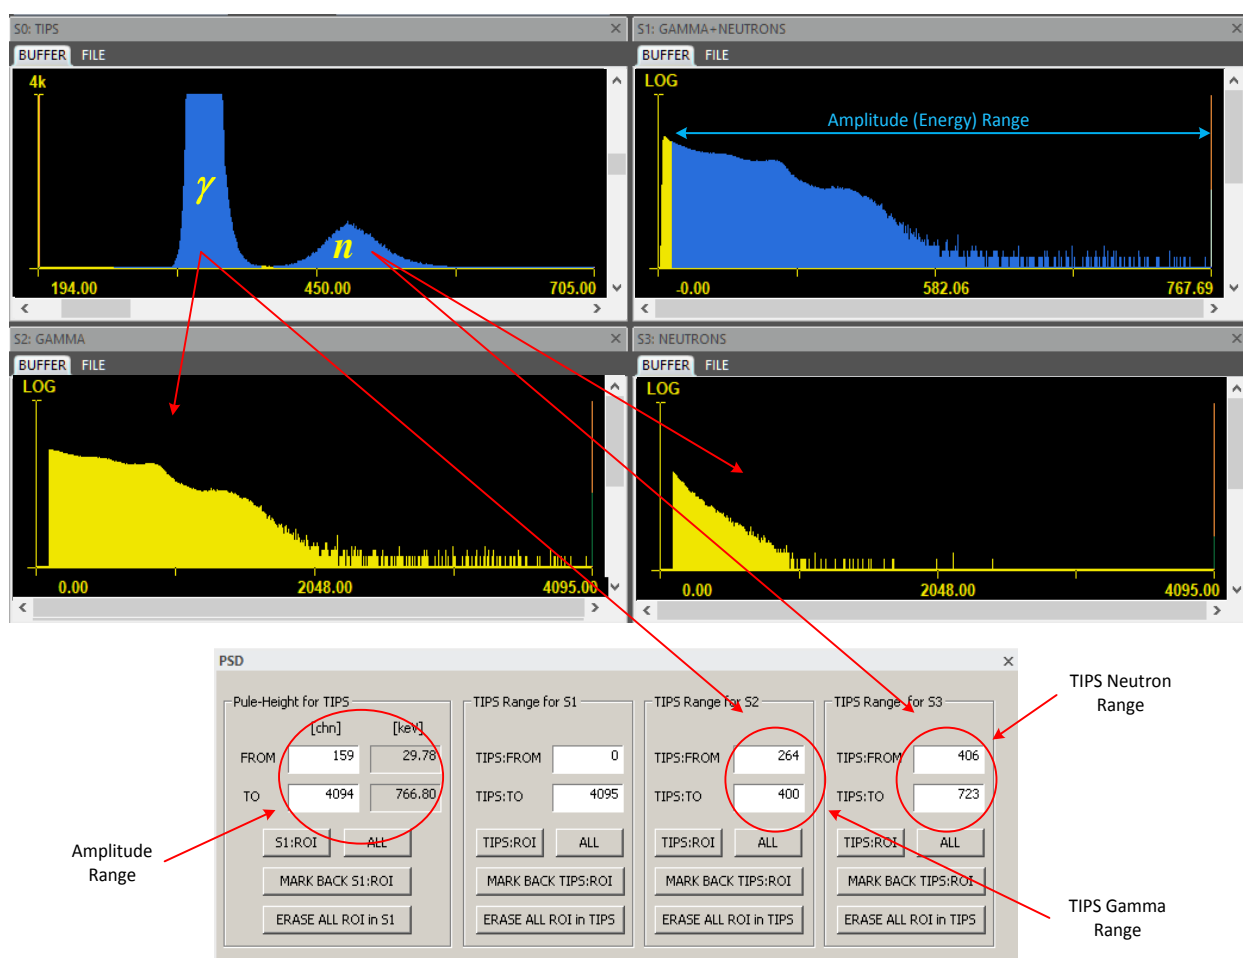
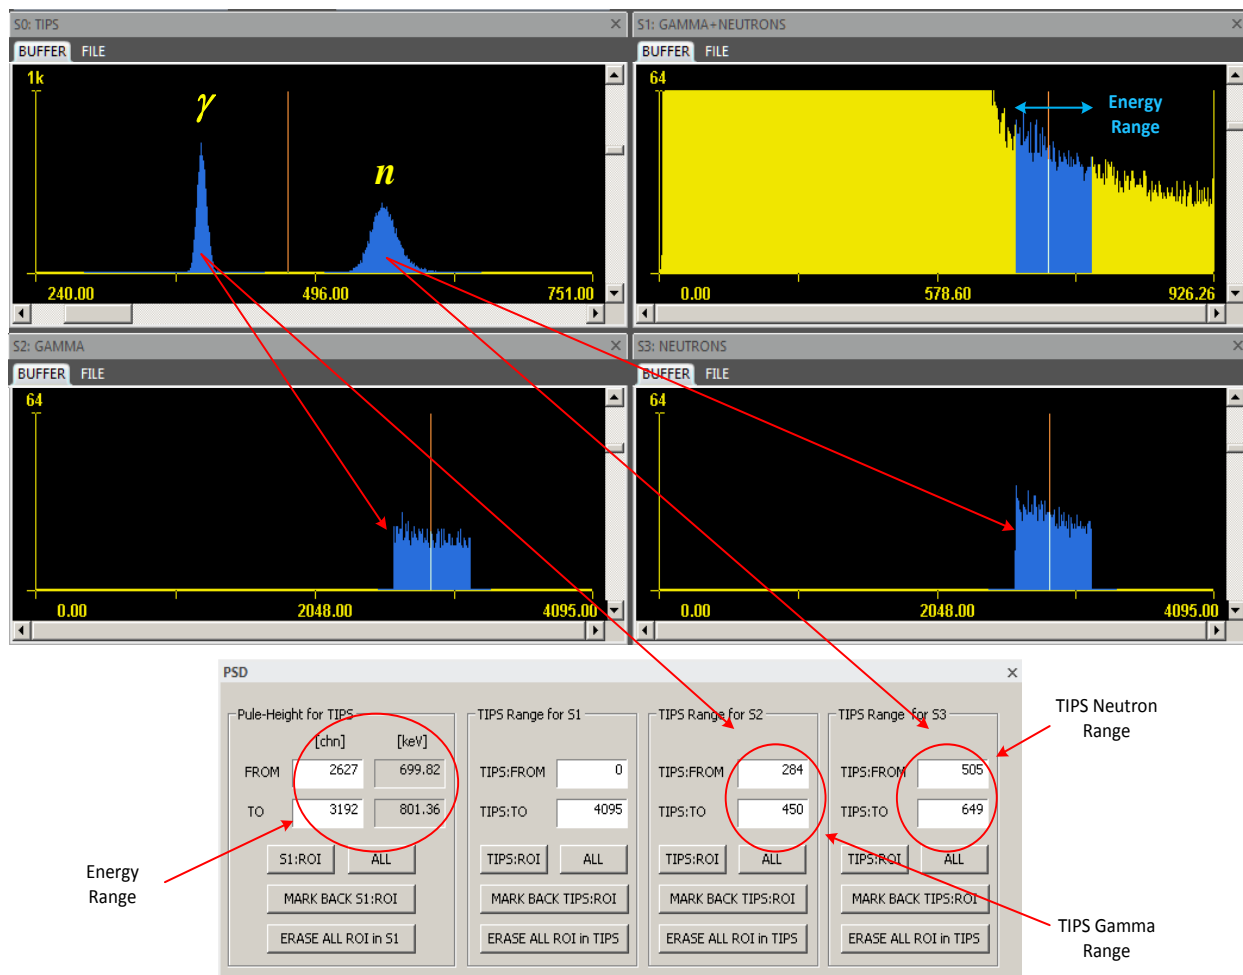

Figure 2.2.19. Relationship between PSD controls and the spectrum acquisition.
Figure 2.2.20. Simultaneous pulse-height and pulse-shape discrimination.
The groups "TIPS:ROI for S2" and "TIPS:ROI for S3" are used to enter a pulse-shape discrimination range of TIPS by selecting appropriate ROIs in the S0:TIPS spectrum window. For example, if a neutron-gamma TIPS spectrum the gamma peak can be marked by an ROI and entered in the "TIPS:ROI for S2" while the marked neutron peak can be entered in "TIPS:ROI for S3". Fig 2.2.19 and Fig 2.2.20 illustrate the setting of S2 and S3 in simultaneous pulse-height and pulse-shape discrimination
5. Erase spectrum and start new acquisition. TIPS spectrum should display a pulse-shape signature spectrum as shown in Fig. 2.2.19 or Fig. 2.2.20.